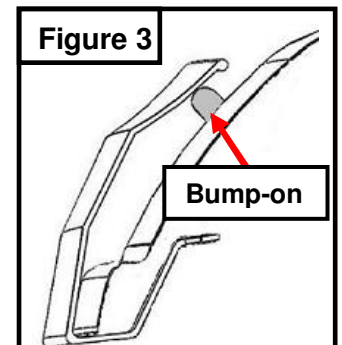

Figure 3
7. Attach rubber bump-on to the factory hood where the corners of the Hood Shield are closest to the hood. **(Fig. 3)** **Clean area first with isopropyl alcohol and remove adhesive backing from bump-on and apply to hood.**